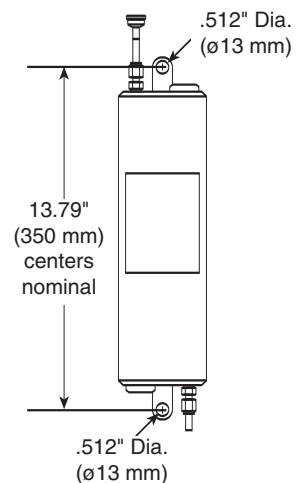

Fig. 3
- The sample cooler must be mounted vertically, using the pre-drilled top and bottom mounting brackets (see Fig. 3).